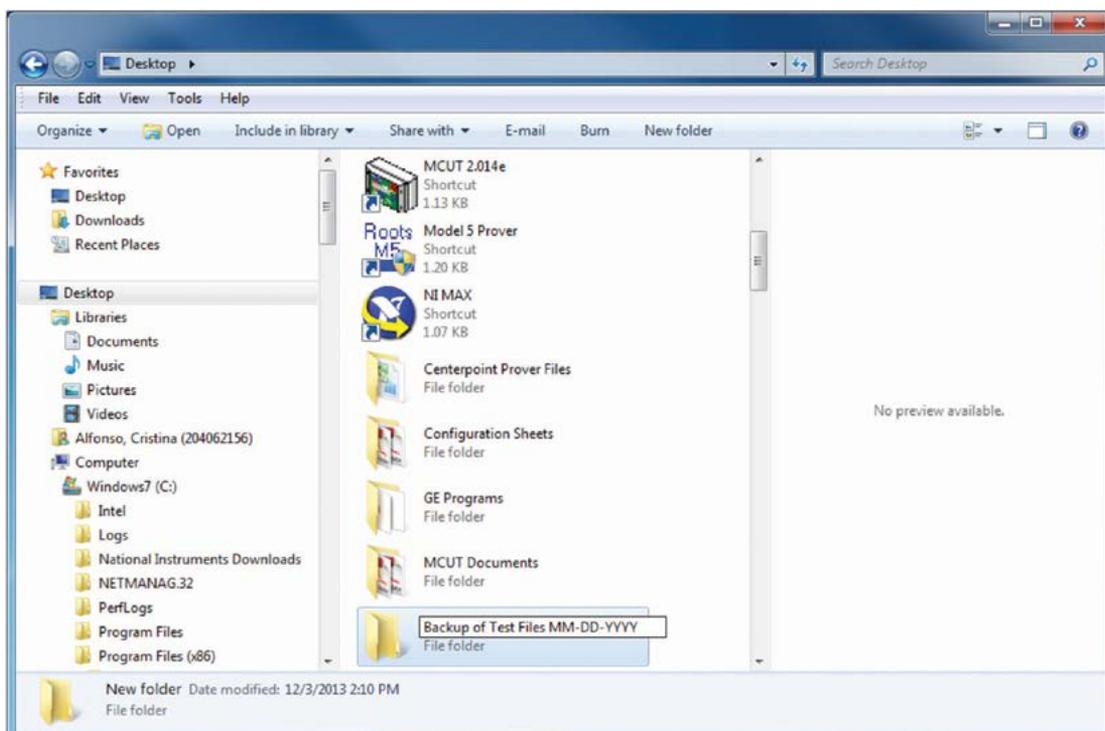

Figure 9: Name New Folder
9. The system will prompt for a name for the new folder. Using the word "Backup" as well as the date will aid in future identification. Refer to **Figure 9**.